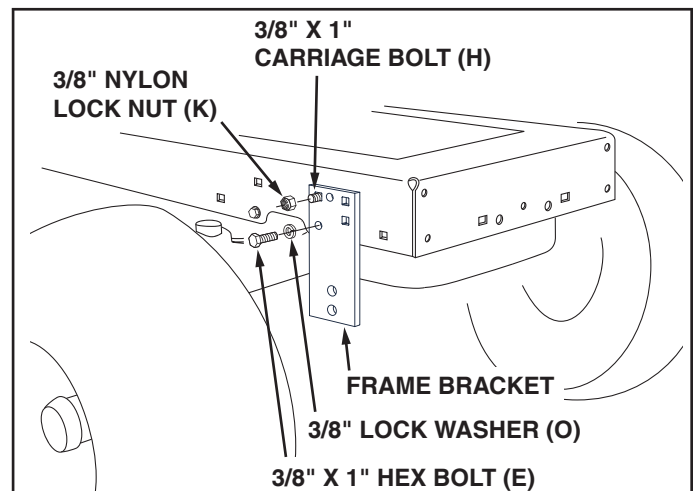

FIGURE 3 - SEARS TRACTOR SHOWN
STEP 3: (SEE FIGURE 3)
- Attach a frame bracket to each side of the tractor frame. On Sears tractors use a 3/8" x 1" hex bolt (E) and 3/8" lock washer (O) in the lower hole and a 3/8" x 1" carriage bolt (H) and 3/8" nylock nut (K) in the upper hole of each frame bracket. Leave out the upper bolt if there is no hole in the tractor frame. **Do not tighten.** For other brand tractors use the bolts and nuts shown in the illustrations on page 9.